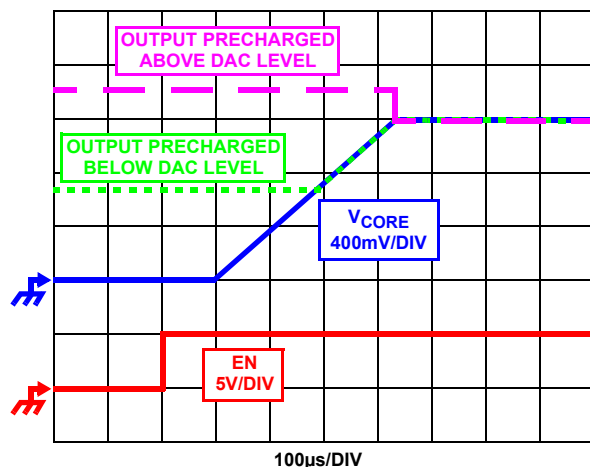

FIGURE 12. SOFT-START WAVEFORMS FOR ISL6329-BASED MULTIPHASE CONVERTER
The ISL6329 features a dual function enable input (EN) for enabling the controller and power sequencing between the controller and external drivers or another voltage rail. The enable comparator holds the ISL6329 in shutdown until the voltage at EN rises above 0.86V. The enable comparator has about 110mV of hysteresis to prevent bounce. It is important that the driver ICs reach their rising POR level before the ISL6329 becomes enabled. The schematic in Figure 12 demonstrates sequencing the ISL6329 with the ISL66XX family of Intersil MOSFET drivers, which require 12V bias.